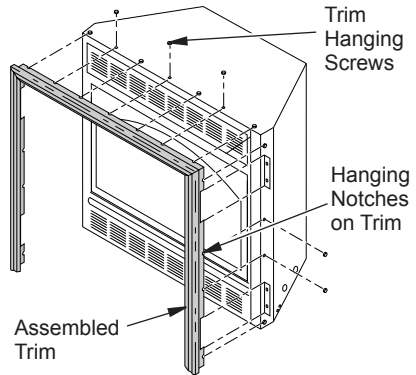

Figure 7 - Attaching Perimeter Trim to Fireplace
8. Tighten trim hanging screws (#10 x 6.25 shoulder) into holes in cabinets. Place the assembled trim onto fireplace cabinet. Align hanging notches on trim with hanging screws on side of fireplace (see Figure 7). Push trim firmly into place, sliding hanging notches over hanging screws.
- Install perimeter trim after final finishing and/or painting of wall (see Figure 7, page 9).
16. Install brass trim after final finishing and/or painting of wall (see Figure 7, page 9).